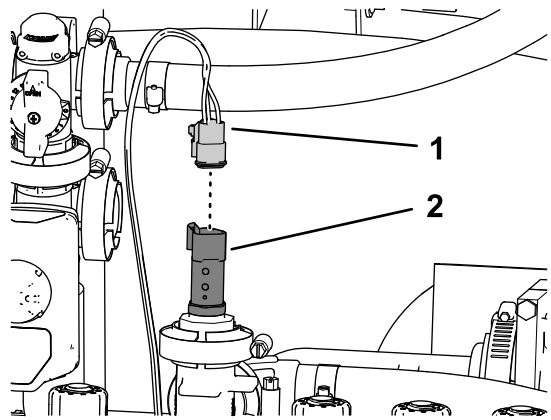

Figure 132
1. Insert the 3-socket connector 61 cm (24 inch) branch of the kit wire harness labeled PRESSURE TRANSDUCER GREEN WEDGE into the 3-pin connector of the pressure transducer (Figure 132).